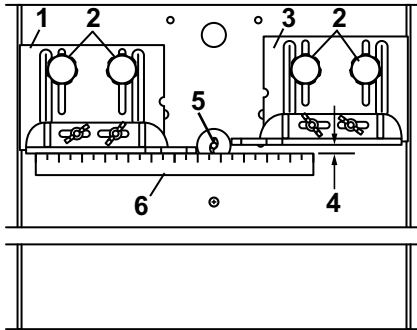

Figure 21
1. Loosen the knobs holding the fences in place. See Figure 21.